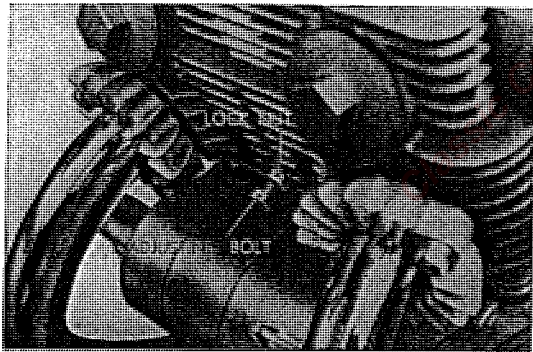

Fig. 3.112 Adjusting cam chain
3. The tightener set bolt should be turned in and secured by the nut. (Refer to Fig. 3.112)